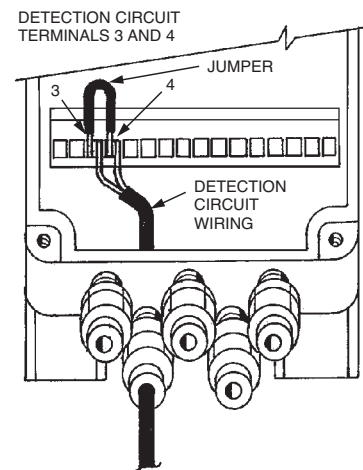

FIGURE 35
- Using a short length of insulated wire stripped at both ends, hold one end of the wire to Terminal 3 and hold the other end to Terminal 4. See Figure 35.